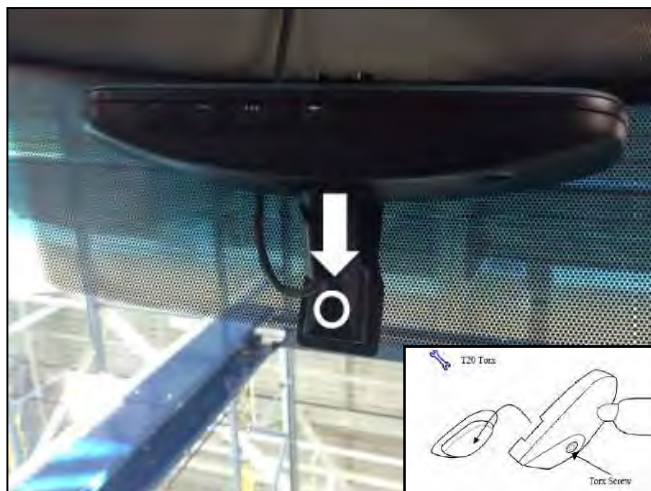

Figure 8
8. Mount the Frameless® EC Mirror w/Compass in reverse of original factory mirror removal. Slide and attach the rearview mirror assembly and tighten mirror set screw with a T20 torx bit or driver. DO NOT over tighten screw. See Figure 8.